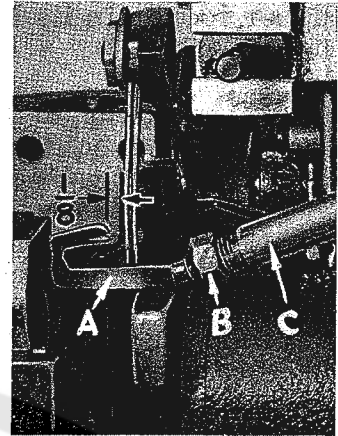

Fig. 5
At this point, insert lower spreader (A, Fig. 5) into bar (C). With lower spreader at the left end of its stroke, set the spreader point $\frac{1}{8}$ inch from center of left needle, using loop gauge No. 21225 G- $\frac{1}{8}$. Do not have lower spreader deflecting the needles. Tighten nut (B).